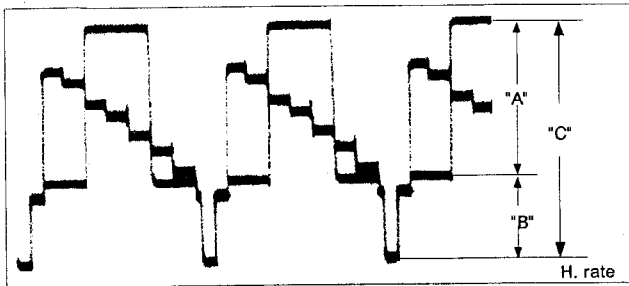

Fig. 3-1-14 N PB Y level
- 3) Adjust R37 so that the video level "A" is 0.71 Vp-p, as in Fig. 3-1-14.
- 4) Adjust R247 so that the sync level "B" is 0.29 Vp-p, as in Fig. 3-1-14.
- 5) Confirm that the Y level "C" is 1.00 ± 0.03 Vp-p as in Fig. 3-1-14.